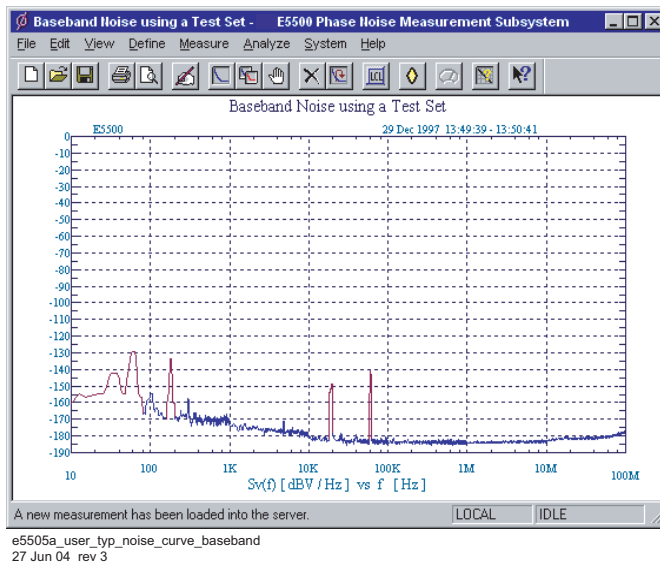

Figure 253 Typical phase noise curve for a baseband using a test set measurement.
- **Figure 253** shows a typical phase noise curve for a baseband noise measurement using a test set.